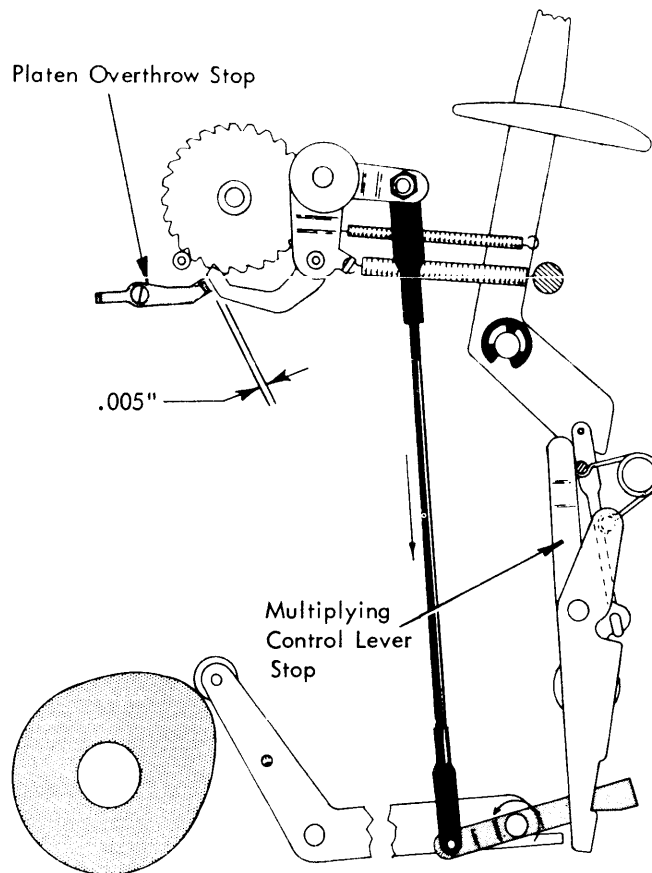

FIGURE 159. Index Travel Adjustment
- a. As a preliminary setting, position the multiplying control lever stop front to rear so that its elongated hole is centered (Fig. 159). The adjustment provides an average leverage ratio for the multiplying lever. Subsequent adjustments may require that the front to rear position be changed slightly.
- c. Adjust the multiplying control lever stop front to rear so that two full teeth of motion is given the index pawl after it starts to drive the platen (Fig. 159).
5. Platen Overthrow Stop - Adjust the stop forward or back so that .005" clearance exists between the stop and the pawl when the cam is on its high point (Fig. 159).